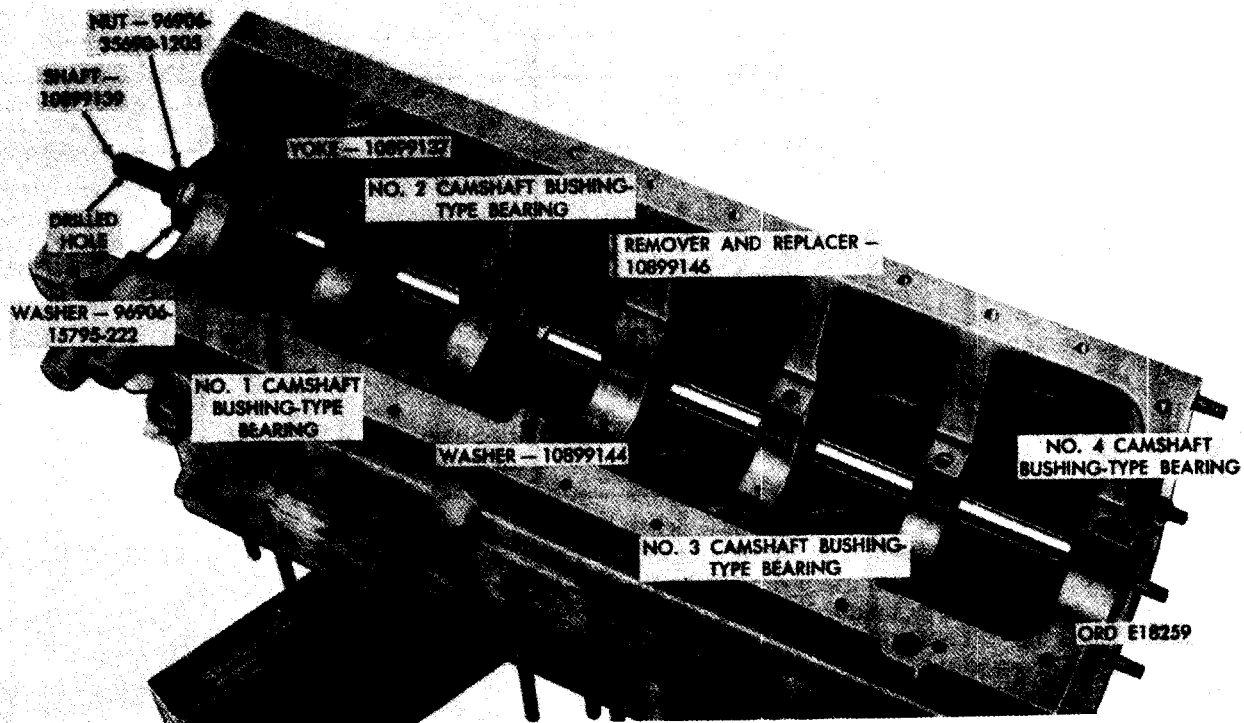

FIGURE 328. REMOVING NO. 2 CAMSHAFT BUSHING-TYPE BEARING.
c. Select remover and replacer - 10899146 (fig. 328). Position the large diameter end of this dual purpose tool in the No. 2 camshaft bearing bore from the rear of crankcase. Position the unthreaded end of shaft - 10899139 through camshaft bearing bores from the front until shaft is through far enough past bearing being removed to expose the slot nearest the unthreaded end. Install special "U" washer - 10899144 in slot and push shaft and washer forward against remover and replacer. Install yoke assembly - 10899137, flat washer - 96906-15795-222, and plain nut - 96906-35690-1205 on threaded end of shaft in the order named. Tighten plain nut until yoke and remover and replacer are properly seated. Slowly tighten plain nut until bearing is removed from bore. If necessary use a suitable pin through drilled hole in the threaded end of the shaft to keep it from turning (fig. 328).